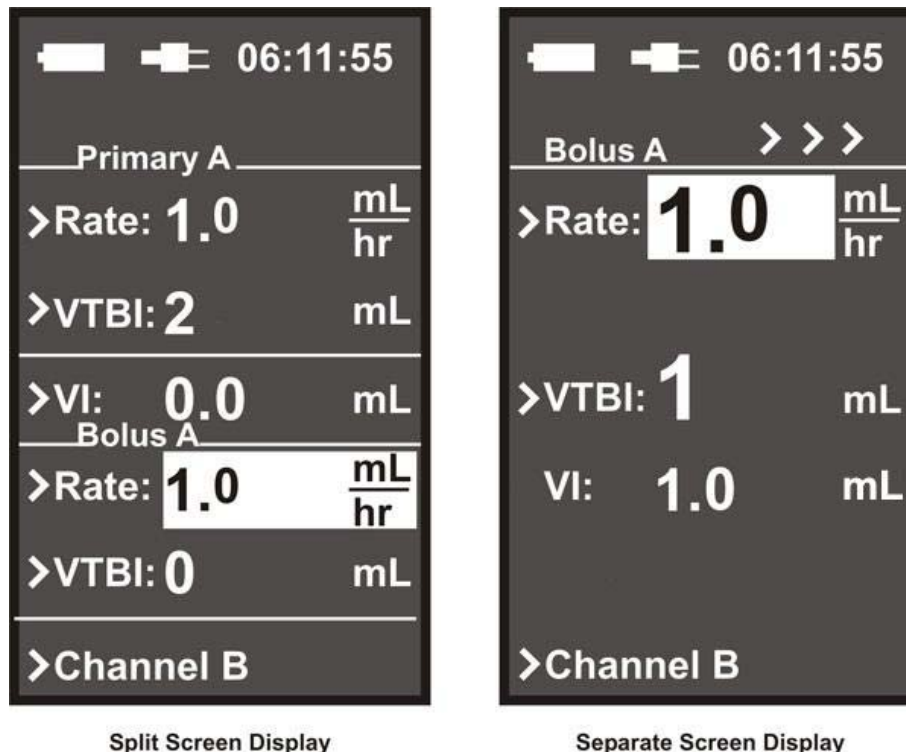

Figure 4-4. Bolus Setup Displays
- If from the primary programming screen the screen will split for Bolus information (See Figure 4-4).
- If from the primary running screen, a separate Bolus display will appear (See Figure 4-4).